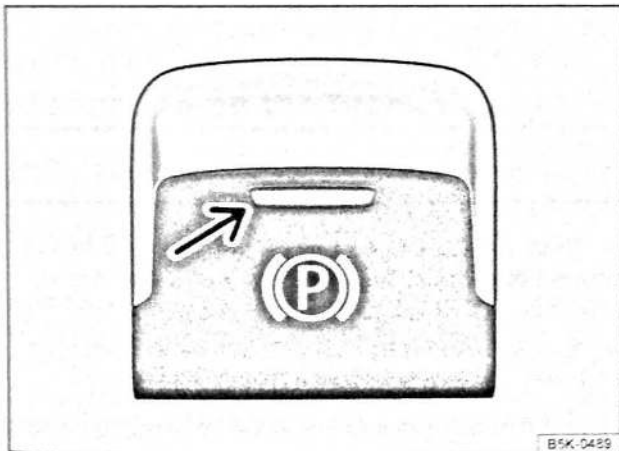

Fig. 140 In lower part of centre console: button for the electronic parking brake
- Pull and hold the  button ⇒ Fig. 140.
- The electronic parking brake is switched on when the indicator lamp in the button ⇒ Fig. 140 (arrow) and the red indicator lamp  in the instrument cluster display are lit up ⇒ page 180.
- Press the  ⇒ Fig. 140 button. At the same time depress the brake pedal with some force or depress the accelerator pedal slightly when the engine is running.
- The indicator lamp in the button ⇒ Fig. 140 (arrow) and the red indicator lamp  in the instrument cluster will go out.
You can prevent the electronic parking brake from switching off automatically by pulling and holding the  button ⇒ Fig. 140 while pulling away.
- Pull and hold the **(P)** button ⇒ Fig. 140 to brake the vehicle **sharply**. An acoustic signal can be heard at the same time.